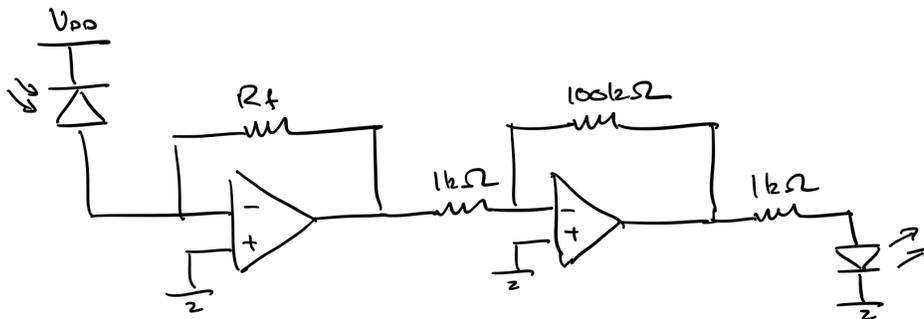

Figure 18: Receiver implementation 2.
1. Using the transmitter and LED circuit from 5.2 and 5.3 along with your prelab calculations for R_f , build receiver implementation 2 shown in Figure 18 using the LM324 quad op-amps.